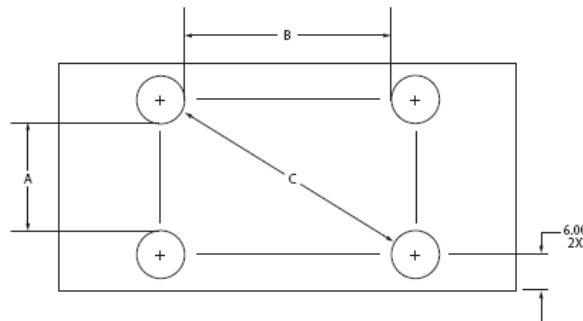

Figure 1 — Isolator Position
Figure 1 shows the correct isolator positions for standard table sizes. Table 1 shows the correct dimensions (A, B, & C) for each table size.
- C. Install three isolator clamps in the corners where each isolator is located (figures 1 & 2). Loosely secure the clamps with the bolts. Do not tighten the clamps at this time.